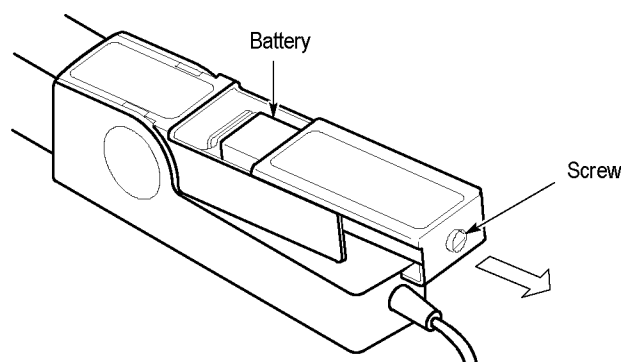

Figure 5: A622 battery compartment
2. Open the battery compartment by loosening the captive screw and sliding the cover off (see Figure 5 on page 11).